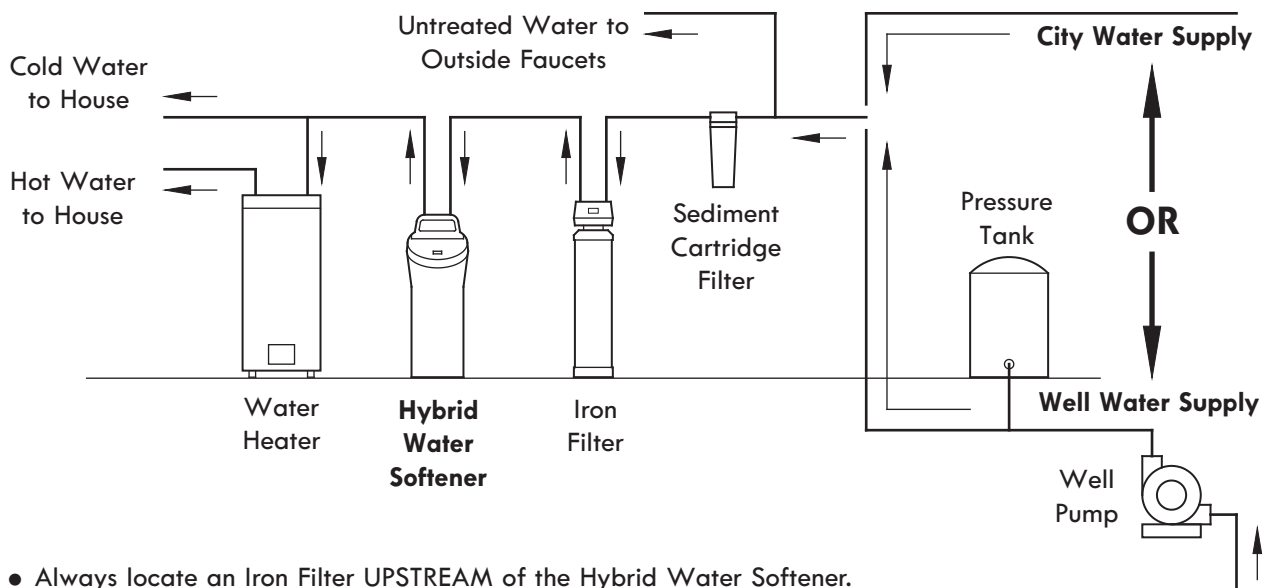

Figure 2
3. Connect to the house main water pipe **UPSTREAM OF THE WATER HEATER** (See Fig. 2). The temperature of water going through the softener must not be more than 100°F (38°C). Hot water will damage inner softener parts. To reduce the risk of hot water backup, piping between the softener and water heater should be as long as possible.